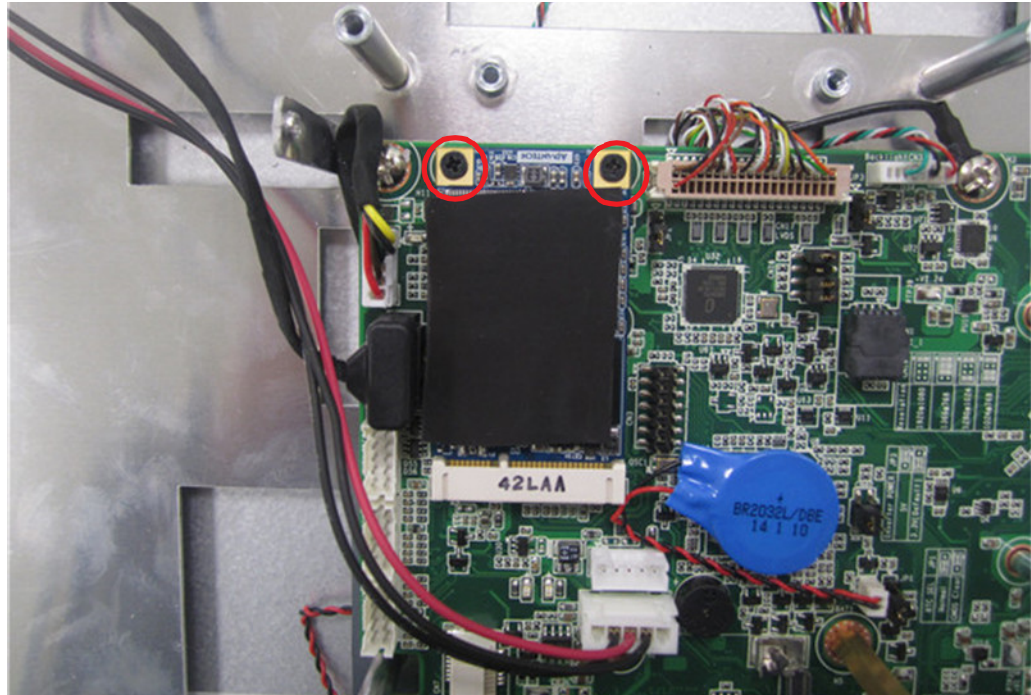

Figure 2.15
2. To install a full-size mini SATA card, insert the mini SATA card into the correct mainboard slot, and affix it in place using two M2.5x4 screws provided in the accessory box. Then retrieve the thermal pad provided in the accessory box and install it atop the mini SATA card (see Fig. 2.15).